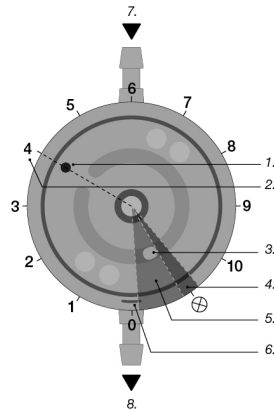

Fig. 10: Schematic representation of rotor in an X-ray image
The position of the channel inlet (1) is crucial (Fig. 10), which is determined by the position of the rotor.
inlet (1) shows the selected flow-reduction level (2) (Fig. 10).
To prevent reading the flow-reduction level in reverse, the rotor stop (3) serves as a reference point – in a top view onto the implanted valve as in Fig. 10, the rotor stop is visible on the lower right-hand side.